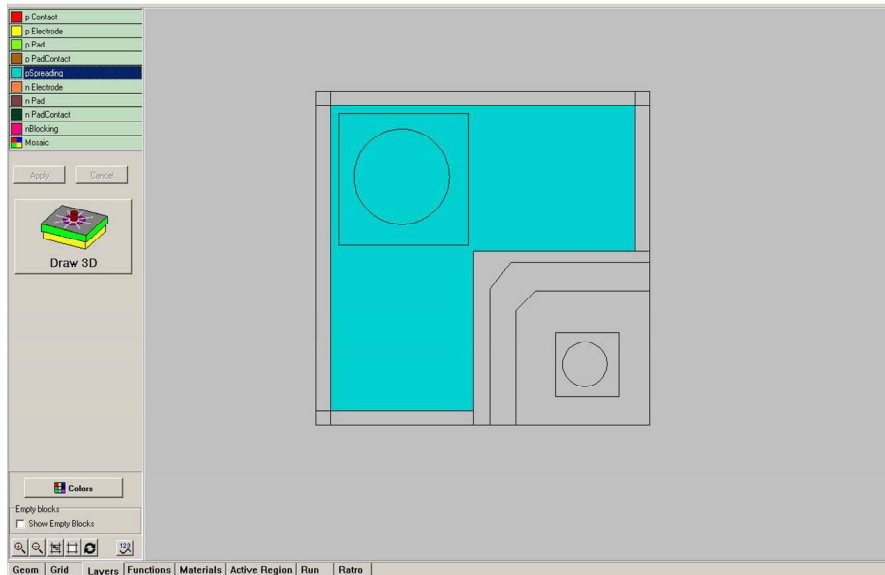

Fig. 20
**p-spreading.** Area of the current spreading layer (highly conductive semiconductor like ITO) under p-electrode (see Fig. 20), if it is included into **Chip Configuration**. This layer should lie inside the p-semiconductor.